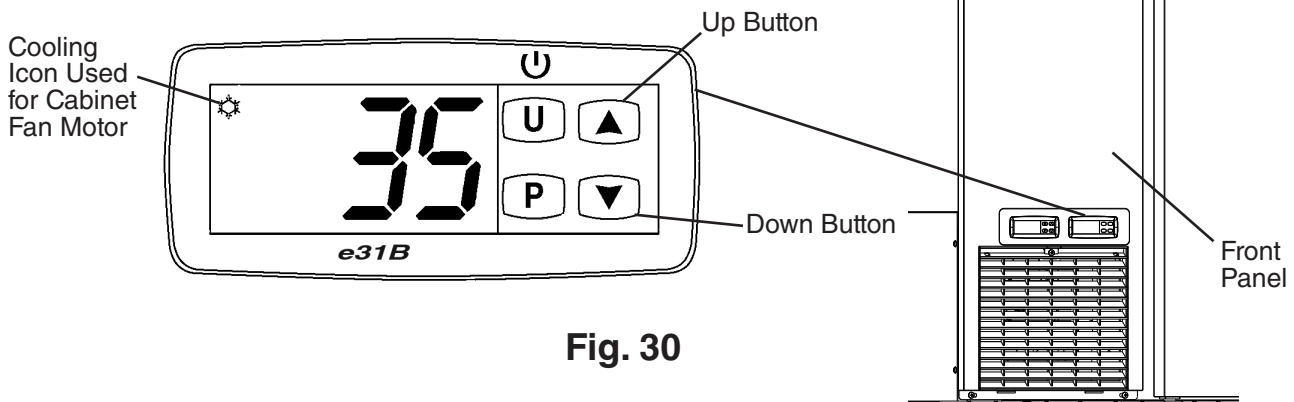

Fig. 30
- 4) Press the "P" button to save the selection. i.uP is displayed. To return to normal display mode, press and hold the "U" button for 5 sec. Display returns to normal display mode. If no other button is pressed after pressing the "P" button, 25 sec. later, display returns to normal display mode. See Fig. 30.